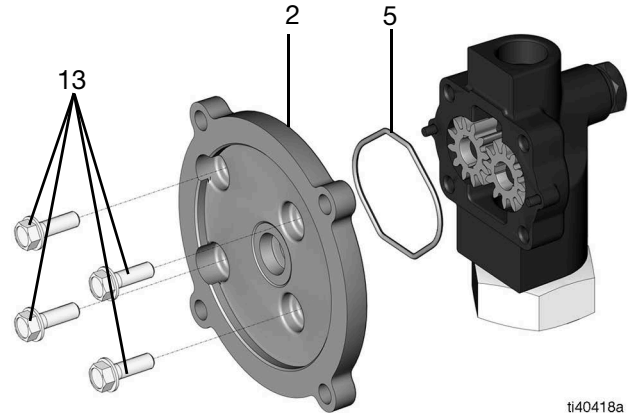

FIG. 9
- Remove four screws (13) on the adapter plate (2) using a 1/2 in. socket wrench (FIG. 9).
- Remove the adapter plate (2) (FIG. 9).
- Remove the o-ring (5) (FIG. 9).
4. Push the four screws (13) through the adapter plate (2) and use a 1/2 in. socket wrench to tighten (Torque 30 ft-lbs, 40.7 N•m) (see FIG. 9).